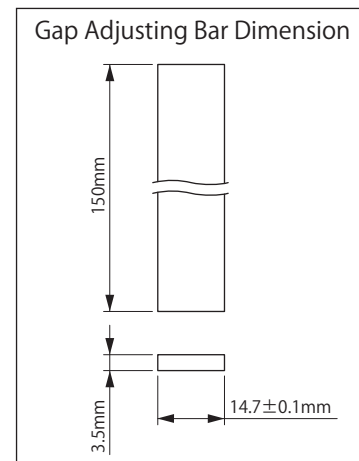

Figure 8-17
- (3) Insert a gap adjustment bar (An angle plate should be prepared by customer. See Figure 8-17) into the groove of adjustment screw